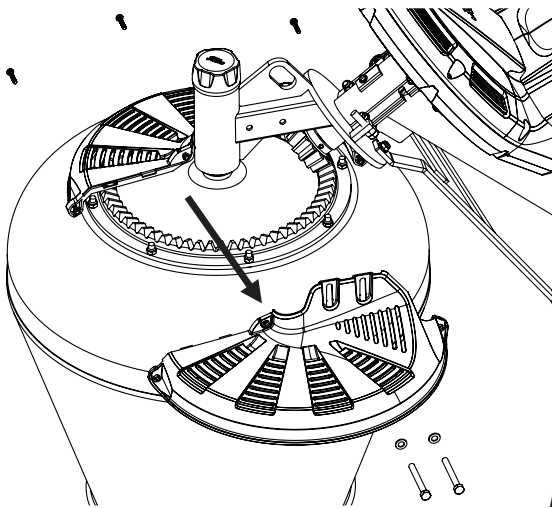

FIGURE 7
- To inspect the gears, tip the bowl into the downward position. Remove the safety guard surrounding the gear ring and check pinion for any signs of wear. Ensure all gear teeth are clean by using a stiff brush to remove any residue. **(Figure 7)**